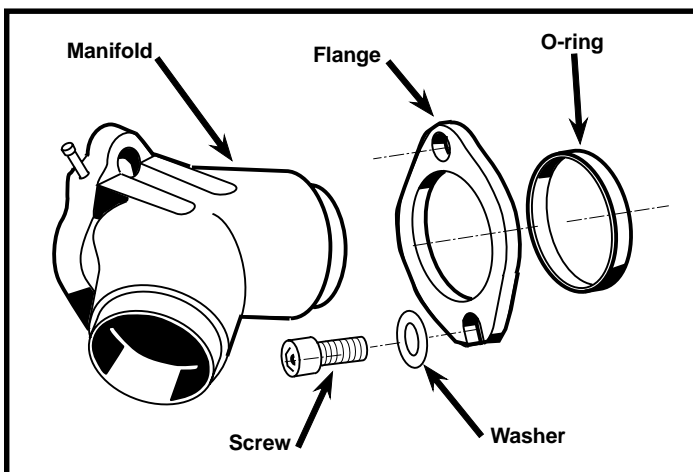

Figure 5
- Install intake manifold, mounting flanges and o-ring seals provided. Be sure o-rings and flanges are assembled in correct sequence. See Figure 5. Use flange marked "F" on front head and flange marked "R" on rear. Slotted end of mounting flange goes toward lower manifold mounting hole. Flat washer provided is used on slotted end of flange. Do not tighten mounting flange screws.